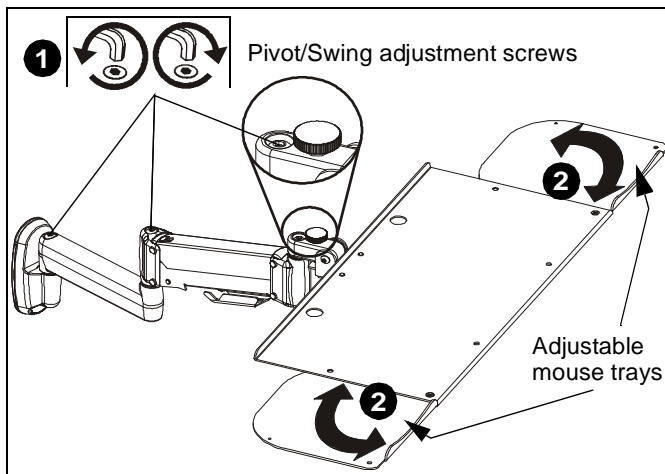

Figure 9
- Slightly loosen or tighten the adjustment screw(s) as necessary, using the 3/16" hex key (K). (See Figure 9)
- Mouse trays slide open and closed on both sides of the tray for use by both right- and left-handed users. (See Figure 9)